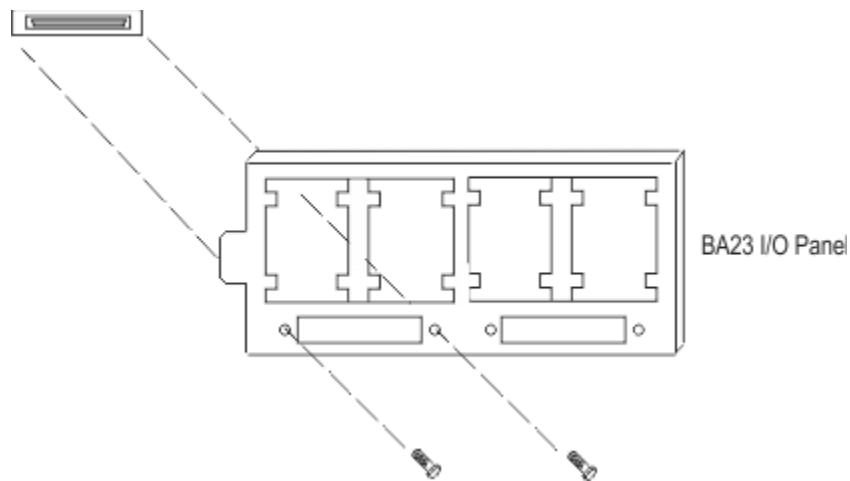

Figure 1-5: Mounting the Panel into the Qbus System Bulkhead
- Figure 1-5: Mounting the Panels into the Qbus System Bulkhead 7
Remove a blank “A” size panel in the I/O bulkhead. Install the panel into the bulkhead as shown in Figure 1-5. Note: Logical does not supply I/O bulkhead panel and cabling.